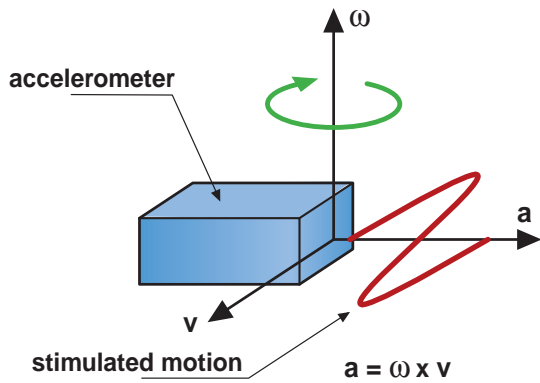

Figure 4. The principle of the vibration gyro (Picture: IMAR Navigation)
- The **vibrating gyroscope** (The word gyro here simply indicates that the device senses rate of turn, it does not imply that the device contains a rotating mass like a traditional gyroscope) uses the mechanical Coriolis force (a) experienced by a vibrating mass that is rotated (ω) in a plane orthogonal to its plane of vibration (v) (see **Figure 4**). A piezo harmonic vibrator or capacitive driver produces the moving mass. This type of gyro is often used in low-cost non-critical applications. It has a poorer performance compared with laser gyro particularly in terms of its noise, sensitivity to mechanical vibration and its temperature dependant output drift ($3^\circ/\text{s}$).